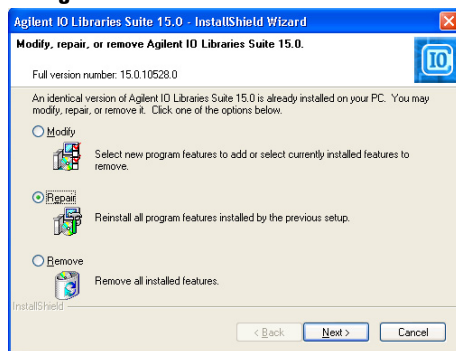

Figure 53 Agilent IO Libraries Suite InstallShield Wizard
- 2 In the **Add or Remove Programs** dialog select **Agilent IO Libraries Suite** and press the **Change/Remove** button. After a few seconds of preparation the **Agilent IO Libraries Suite - InstallShield Wizard** is displayed (see Figure 53).